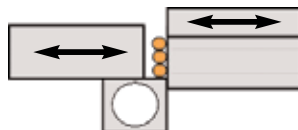

Figure 1b
- **Vertical Stacking Fixes the Problem** – By allowing operators to vertically stack the wires (as shown in Figure 1b), a consistently high-quality splice is ensured. The WSX-20 is the only ultrasonic splicing system to offer this critical feature.